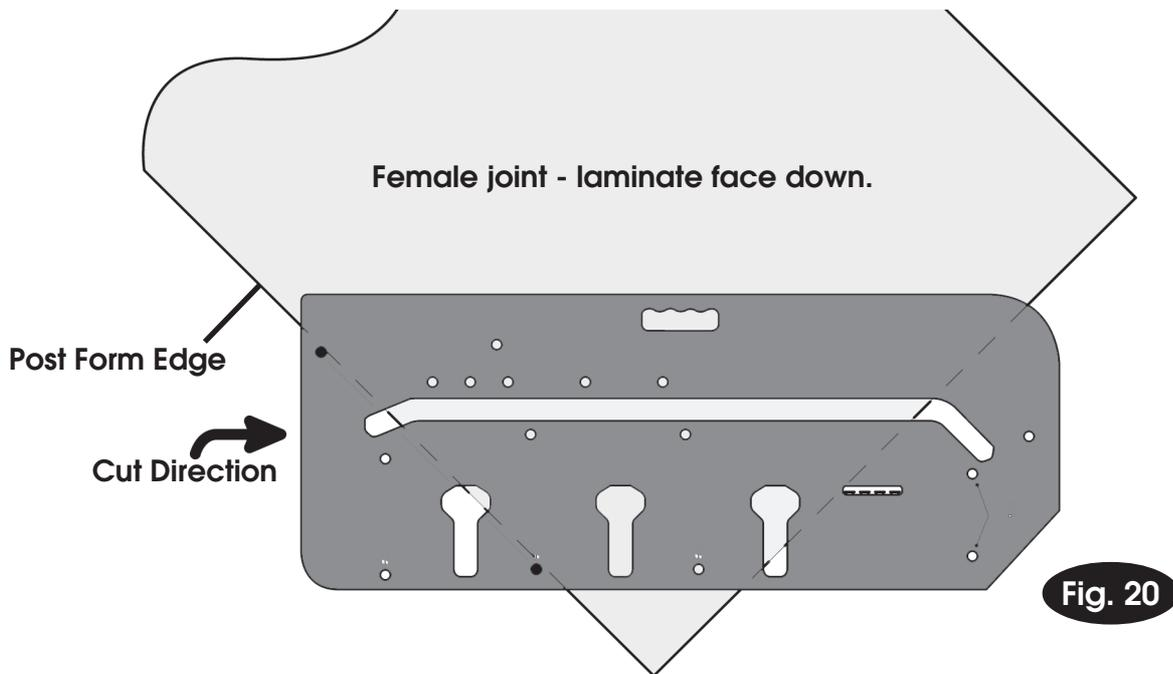

Fig. 20
1. **Female joint (Fig. 20)** - Refer to the diagrams on the different joints available. Prepare the worktop with the laminate face down and the post form edge towards the left.